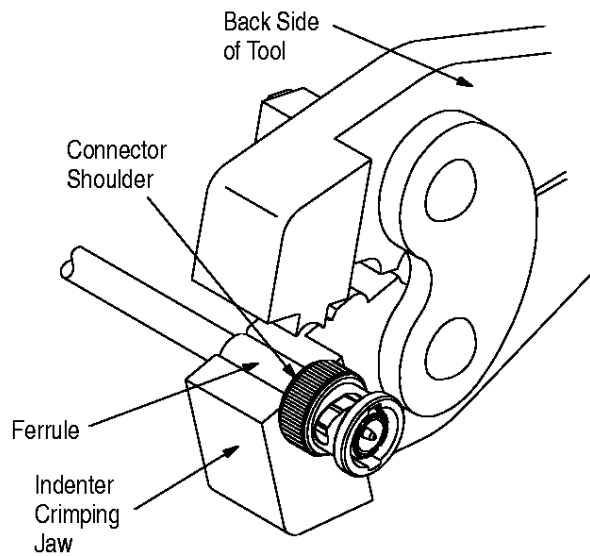

Figure 5
4. Position ferrule in crimping chamber on the indenter crimping jaw so that the connector shoulder butts against jaw, as shown in Figure 5.